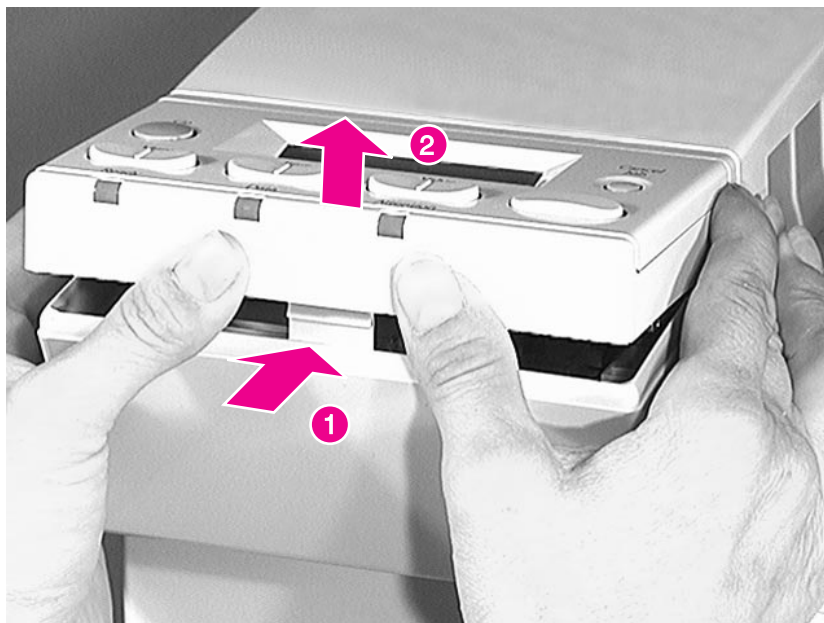
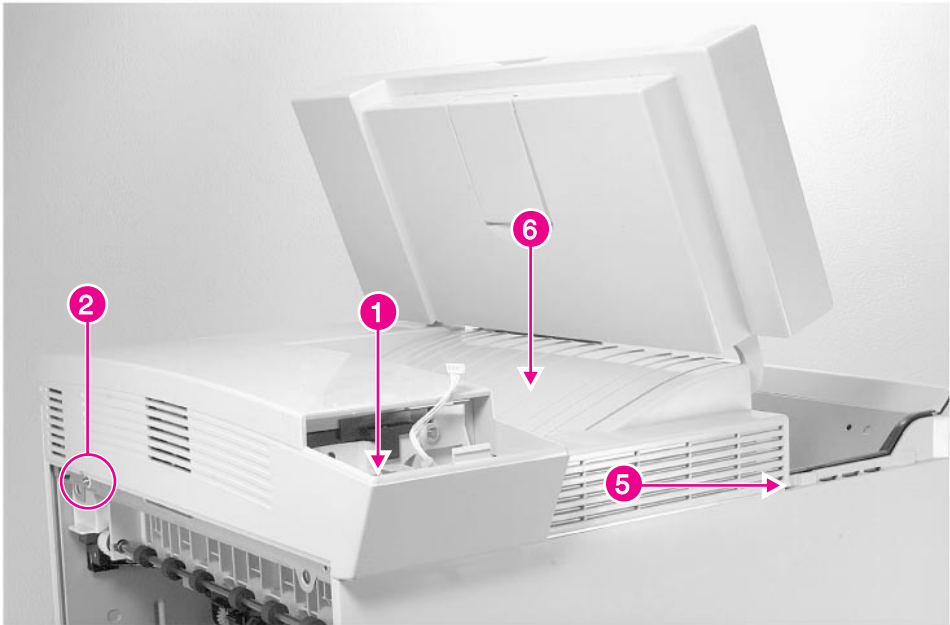

Figure 6-3 Control Panel (1 of 2)
Figure 6-10 Top Cover (1 of 2)
- 1 While pushing in on the center area (figure 6-3, callout), lift up on the forward edge of the control panel to release the plastic retaining tab.
- 1 Remove the Control Panel (see figure 6-3 on page 215), then remove 1 screw (figure 6-10, callout 1).
- 2 Open the Diverter Assembly access door, and remove 1 screw (figure 6-10, callout 2).
- 4 Lift (and hold) the top cover door up, and carefully pull out on the cover to release the retaining tab (figure 6-10, callout 5).
- 5 Hold the Face-down Bin (figure 6-10, callout 6) down while carefully and slowly lifting the top cover straight up until it clears the Face-down Bin Full sensor flag and the Delivery Unit.
- 1 Hold the top cover door up and the Face-down Bin (figure 6-10, callout 6) down while lowering the cover into position.
- Top Cover (see figure 6-10 on page 223)
- 2 Remove the top cover (see figure 6-10 on page 223).